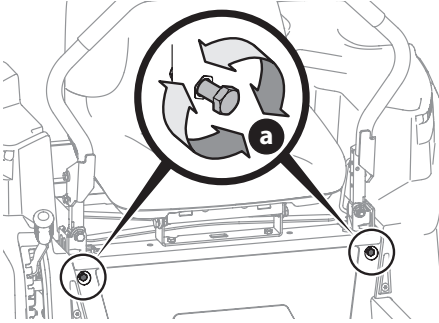

Figure 36
2. Locate the lapbar drive control lever stop adjustment bolts (a) on the front of the seat frame (Figure 36).